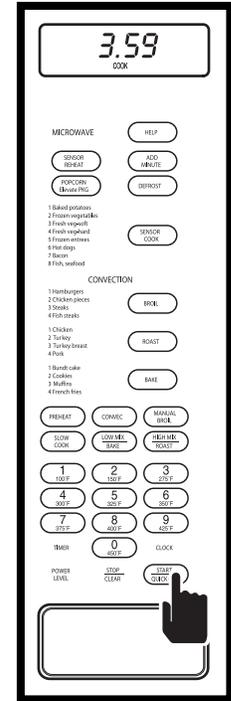

Figure 3-32.
3. Press QUICK ON/START key to begin cooking at power level chosen. The oven will energize and display will show the time as it counts down. (See Figure 3-32) At the end of the cooking time, “END” will flash on the display and alarm will beep.